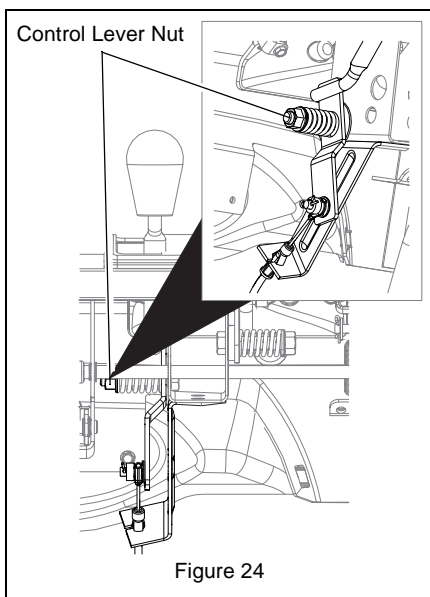

Figure 24
(Figures 24 and 25)
1. Tighten nut beneath control panel to increase pressure on deflector control (Figure 24).